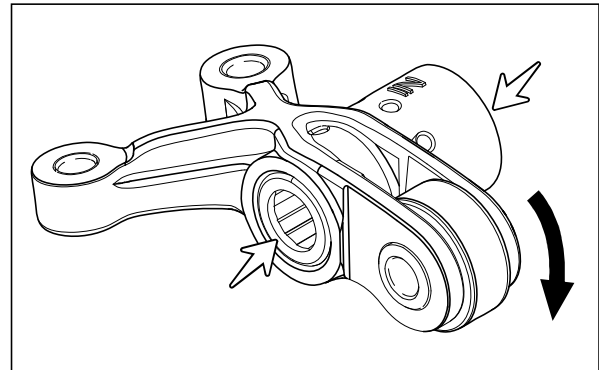

Fig. 3.65
- The arm complete valve rocker has a roller follower. The roller follower is a steel roller housed with a needle bearing. This has been provided to decrease the load exerted by the valve train on engine by reducing the friction. (Fig. 3.65)